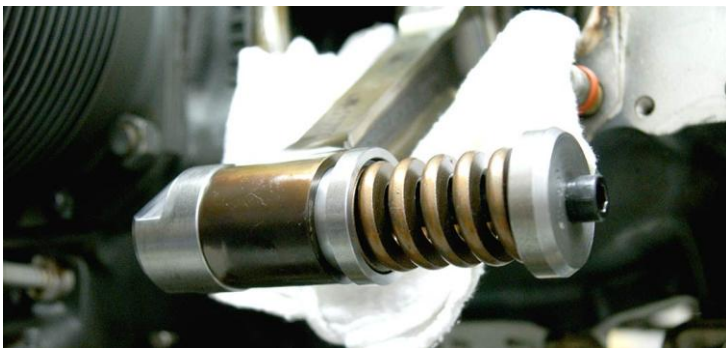

Figure 5
3. Install the tool in the piston end of the connecting rod (Figure 5) and reinstall the bottom section.